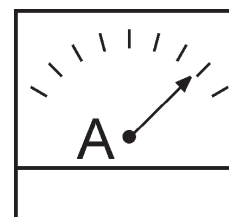

Figure 48. Ammeter (No Load)
11. The ammeter (Figure 48) will indicate zero amps with no load applied. When a load is applied, this meter will indicate the amount of current that the load is drawing from the generator.